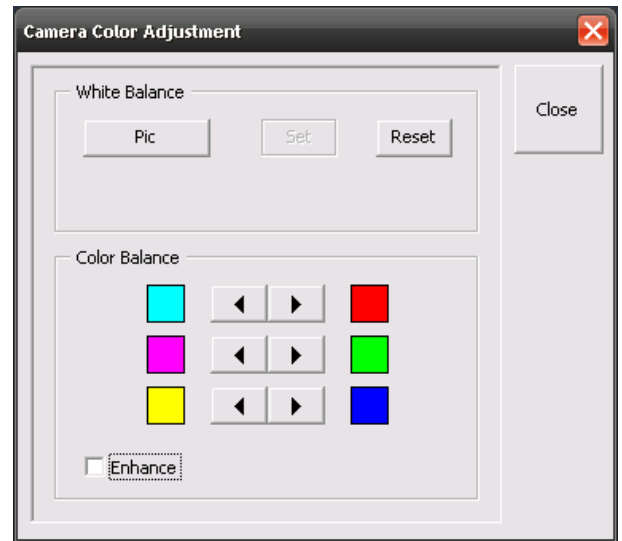

Fig. 19 Camera Color Adjustment window
- The **Camera Color Adjustment** window appears on the screen (see Fig. 19).